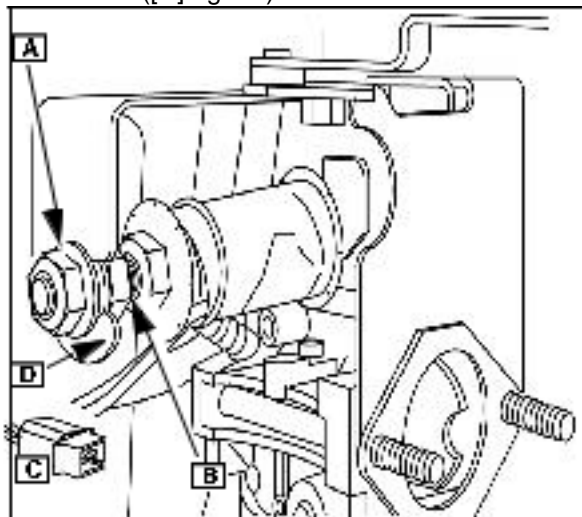

Fig. 44
Loosen both adjusting nuts ([A] and [B] Fig. 44). Then, unscrew nut (A) until flush with end of bolt.
With the engine running, apply 12VDC to white connector with the blue wires ([C] Fig. 44). Extended governor will be pulled against head of idle down bolt. ([C] Fig. 44).
Adjust nut ([A] Fig. 44) to obtain **2100-2500 RPM**.
Hold nut and idle down control in this position and tighten nut ([B] Fig. 44) to listed value.